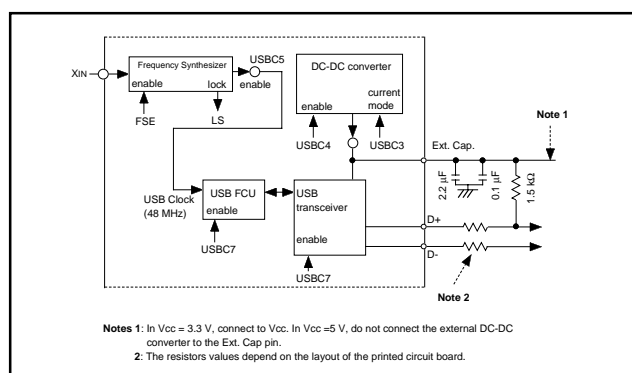

Fig.102 Peripheral circuit
•Connect a capacitor between the Ext. Cap. pin and the Vss pin. The capacitor should have a 2.2 μ F capacitor (Tantalum capacitor) and a 0.1 μ F capacitor (ceramic capacitor) connected in parallel. Figure 102 for the proper positions of the peripheral components.